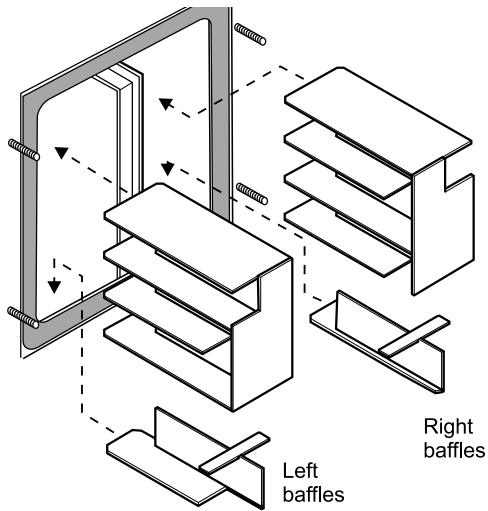

Fig. 19 - 15/26
- 2 Remove the baffles as shown in Fig. 19 or 20.
- 6 Replace the baffles, ensuring they are correctly fitted. See Fig. 19 or 20.